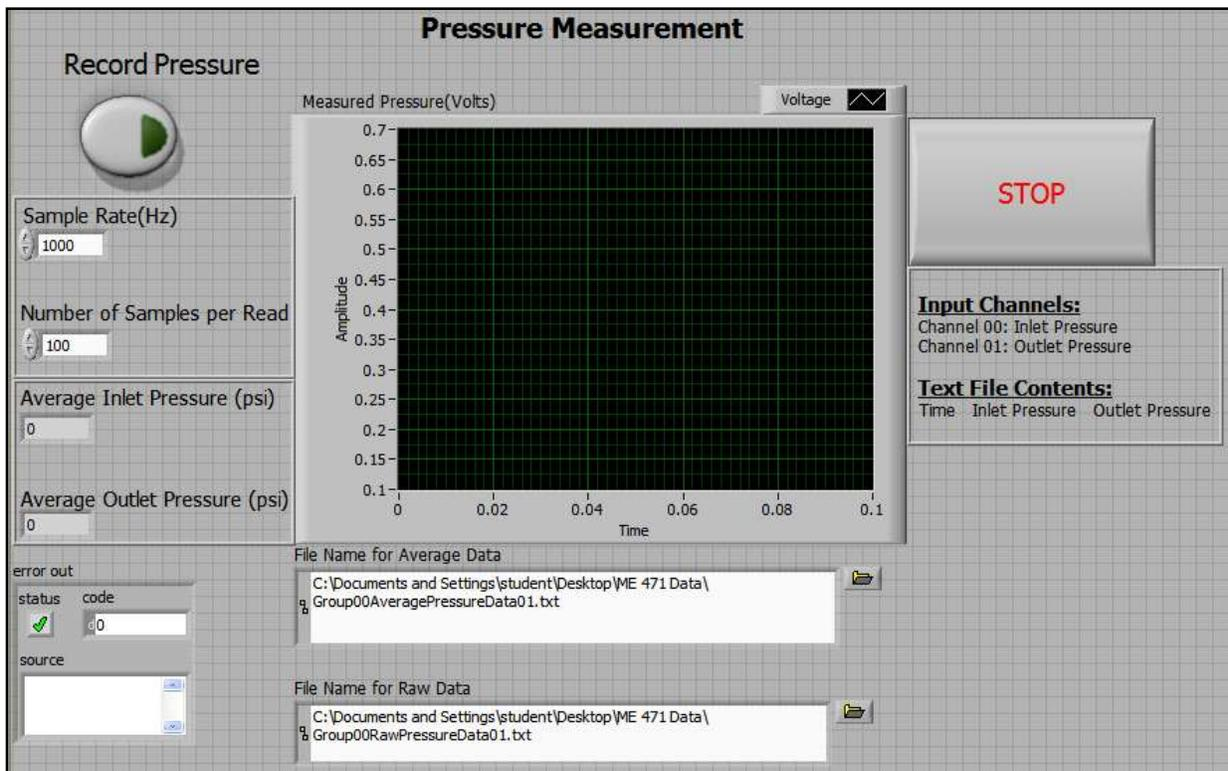

Fig. 1. Front Panel (Graphical User Interface) for Pressure Measurement Program
- The front panel of the LabVIEW *pressure measurement* program is shown in Fig. 1. The program was written to read pressure measurements from the *inlet* and *outlet* ports of a flow restriction.